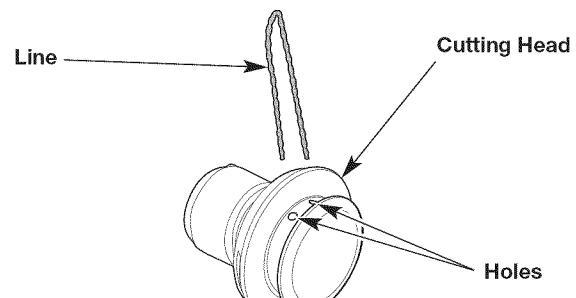
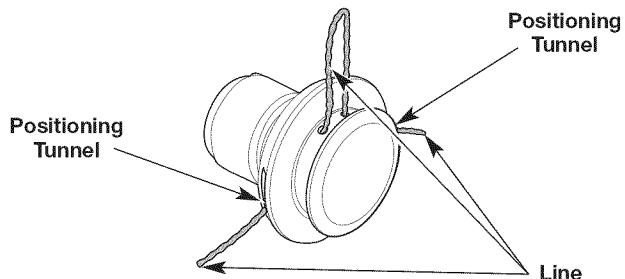

Fig. 15
Fig. 16
- Insert the ends of the line through the large circular holes in the side of the cutting head (Fig. 15). Push the line through the holes until both ends protrude from the positioning tunnels (Fig. 16).